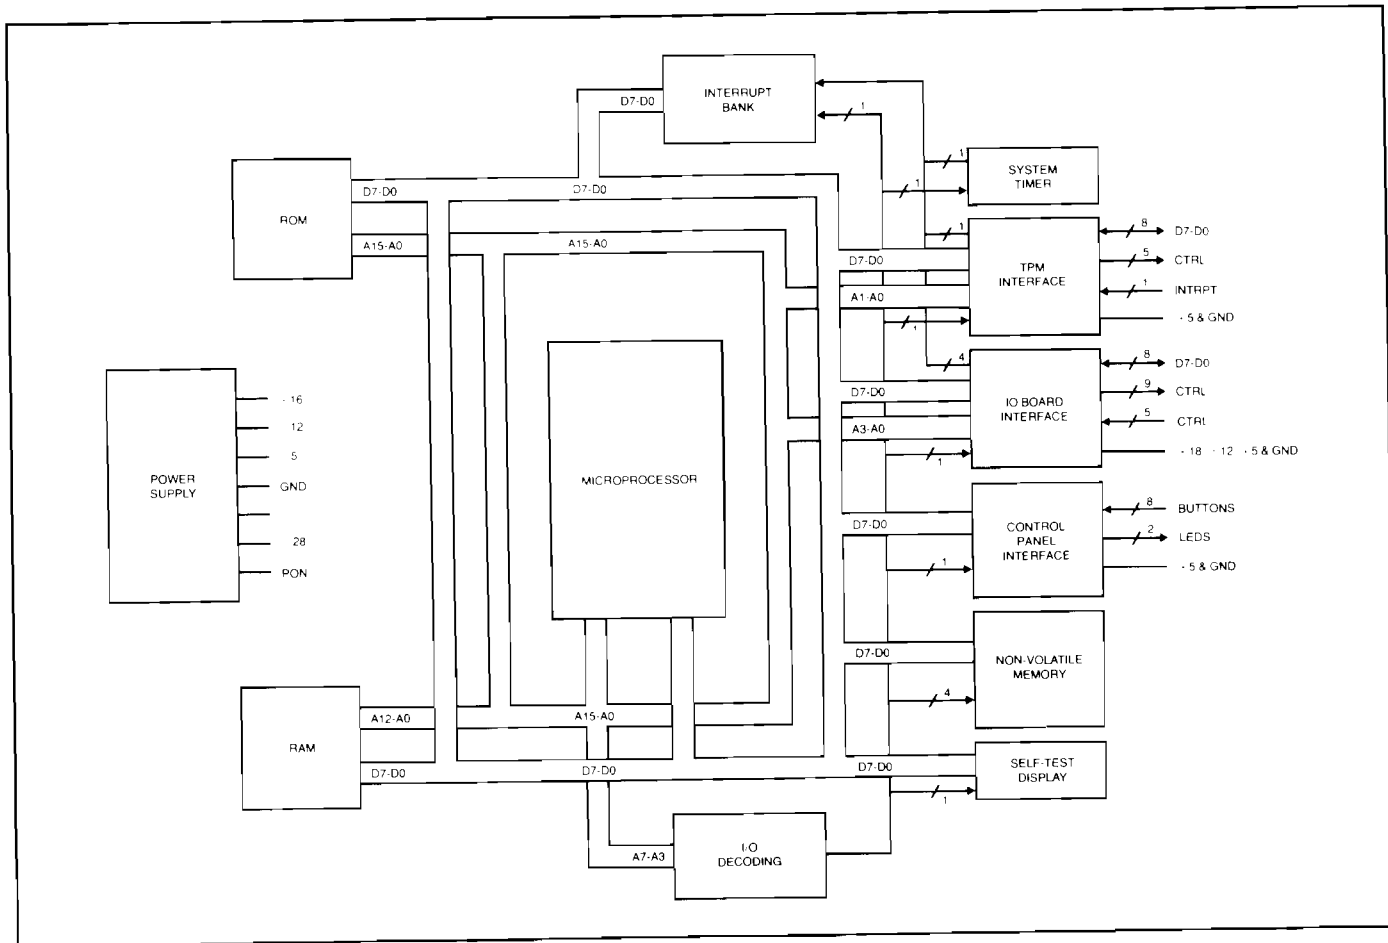

Figure 7-1. Processor Block Diagram
- PROCESSOR** The 02670-60066 Graphics Processor board serves as the main controller for all functions within the printer. The board's functional blocks are described in the following text and illustrated in **Figure 7-1**, Processor Block Diagram.